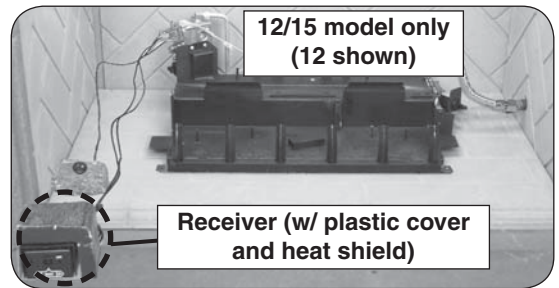

Fig. 17-2 Place remote receiver
3. **Place the remote receiver at the front left corner of the fireplace. Place as far from the burner system as possible.** See Fig. 17-2.
4. Place the plastic cover over the remote receiver with the open side facing forward to allow access to the receiver controls. Then place the decorative heat shield. See Fig. 17-2.